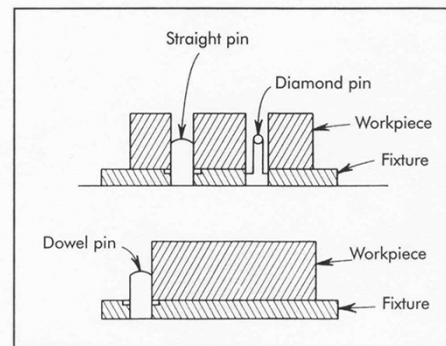

Figure 10-19. Dowel-pin locators.
- Dowel pins may be used as locators (*Figure 10-19*).